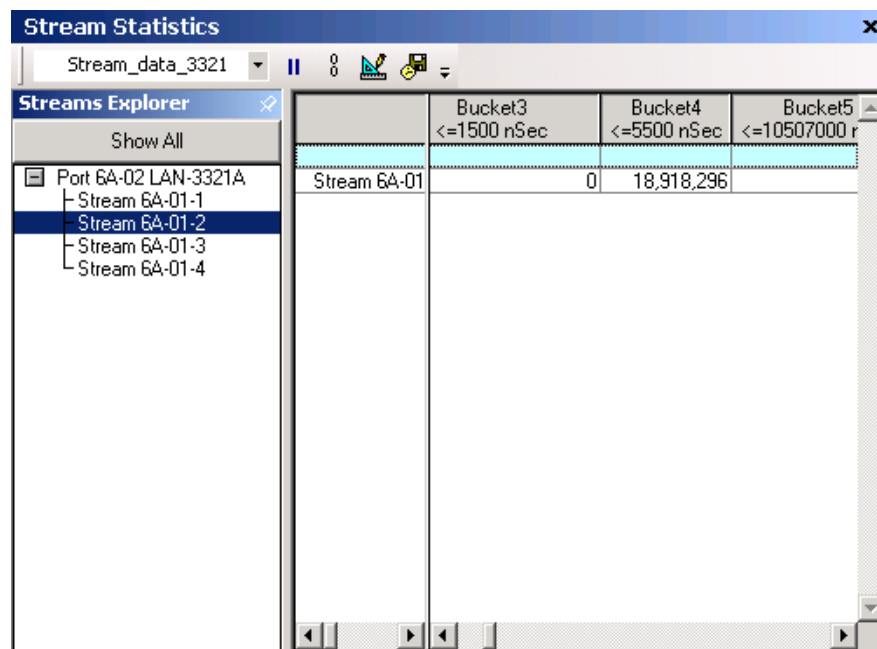

Figure 7-32. Real Time Latency Counters
After the latency test(s) have been implemented, view the results via the SmartCounter window. (Refer to “*Configuring Transmit Streams on TeraMetrics Modules*” on page 392 and “*Real Time Latency Counters*” on page 435 for additional information on how to configure SmartCounters to display real time latency counters.) See *Figure 7-32* for a display of the counter data found in the SmartCounter *Stream Statistics* window.
- 3 Review the *Stream Statistics* window after/during the test, since all real time latency counts are displayed within each of the time intervals. (See Figure 7-32 on page 301.)